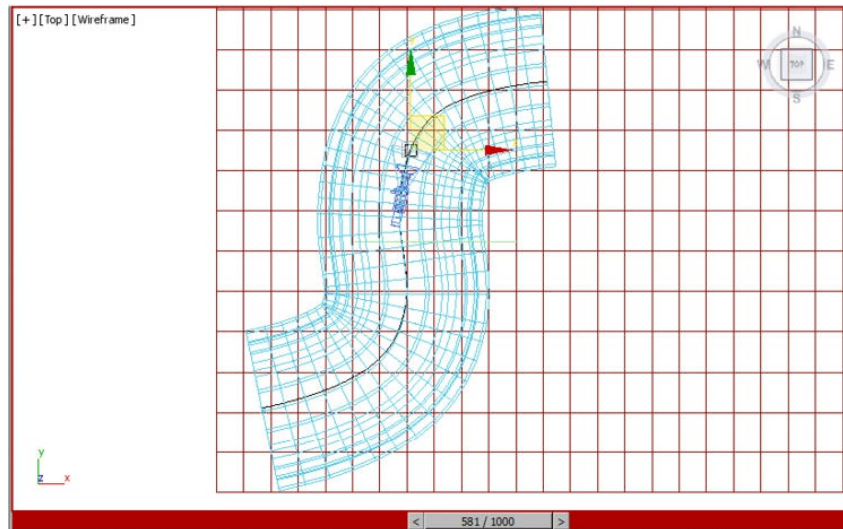

Figure 14-34 The position of the *Camera001.Target* at frame 581
16. Move the time slider to frame 581 and align *Camera001.Target*, as shown in Figure 14-34.